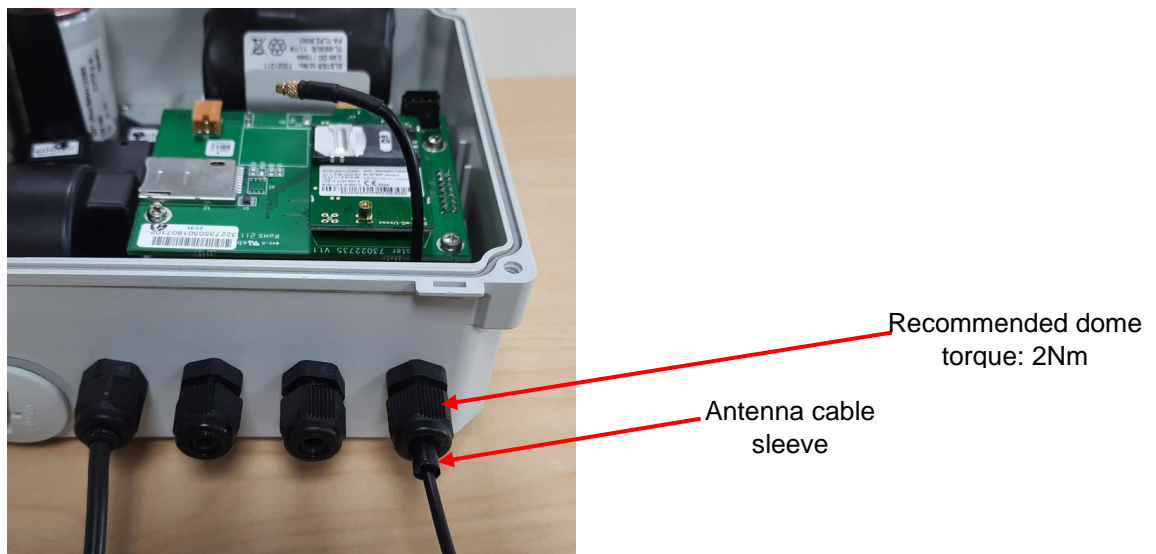

Fig. 33: External antenna cable sleeve default position
- Ensure that the external antenna cable connector end sleeve evenly lies within the cable bushing. (see Fig. 33)
- Connect the antenna cable connector to the modem assembly antenna connector. (see Fig. 33)